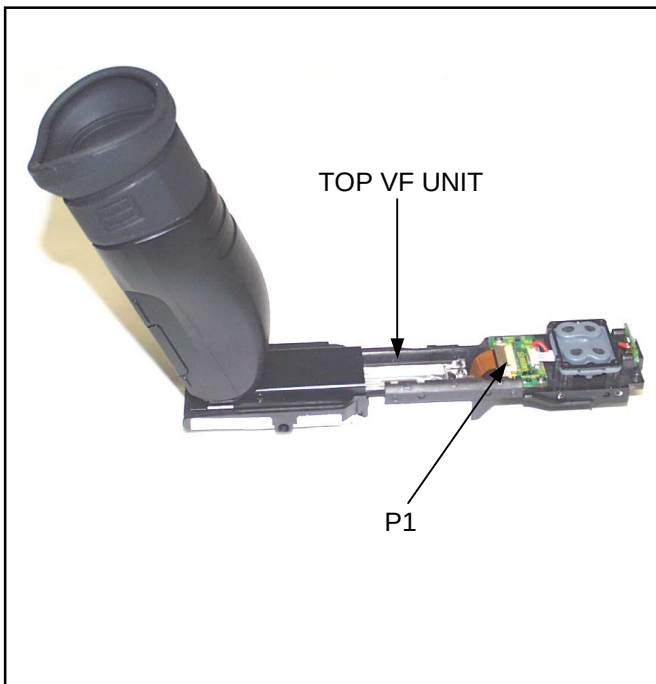

Figure 13-1
4. Disconnect connector P1 on EVF CONNECT C.B.A. as shown in figure 13-1.